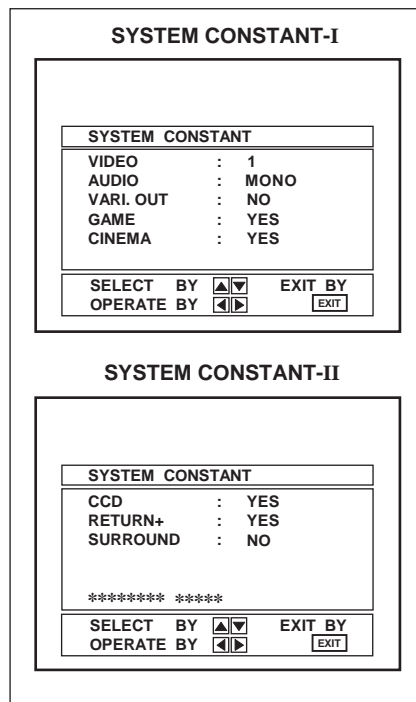

Fig. 2
- 2) In the SERVICE MENU, again press the DISPLAY key and the VIDEO STATU key simultaneously. Then, the SYSTEM CONSTANT SET screen will be displayed. (See Fig. 2.)